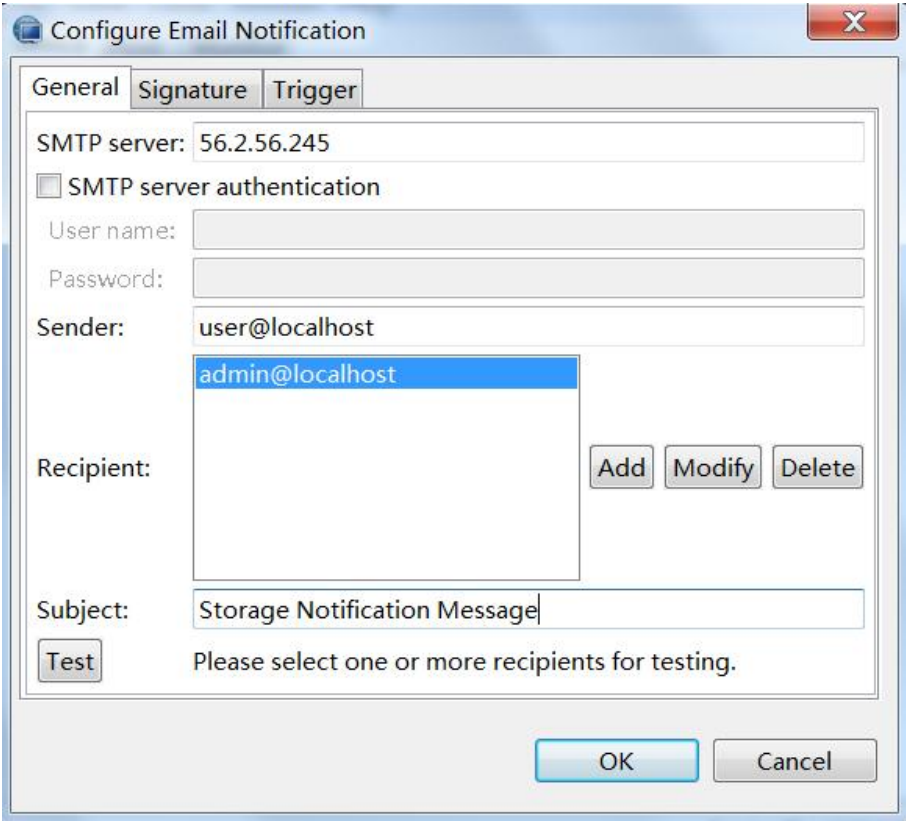

Figure 11-1 Setting Email Notification
- (1) Right click the controller node name to configure email notification from the catalogue tree, select **[Email Notification > Configure]**, and configure it in a new dialogue box, as shown in Figure 11-1;